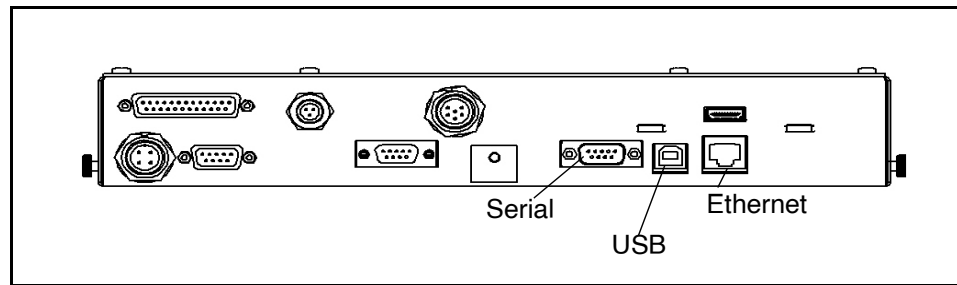

Figure 14
2. Connect the Ethernet cable (supplied) to the Cubiscan 325’s Ethernet port, as shown in Figure 14.
1. Connect the USB cable to the Cubiscan 325's USB port located on the controller box, as shown in Figure 14.
2. Connect the serial cable to the Cubiscan 325's serial port, as shown in Figure 14.